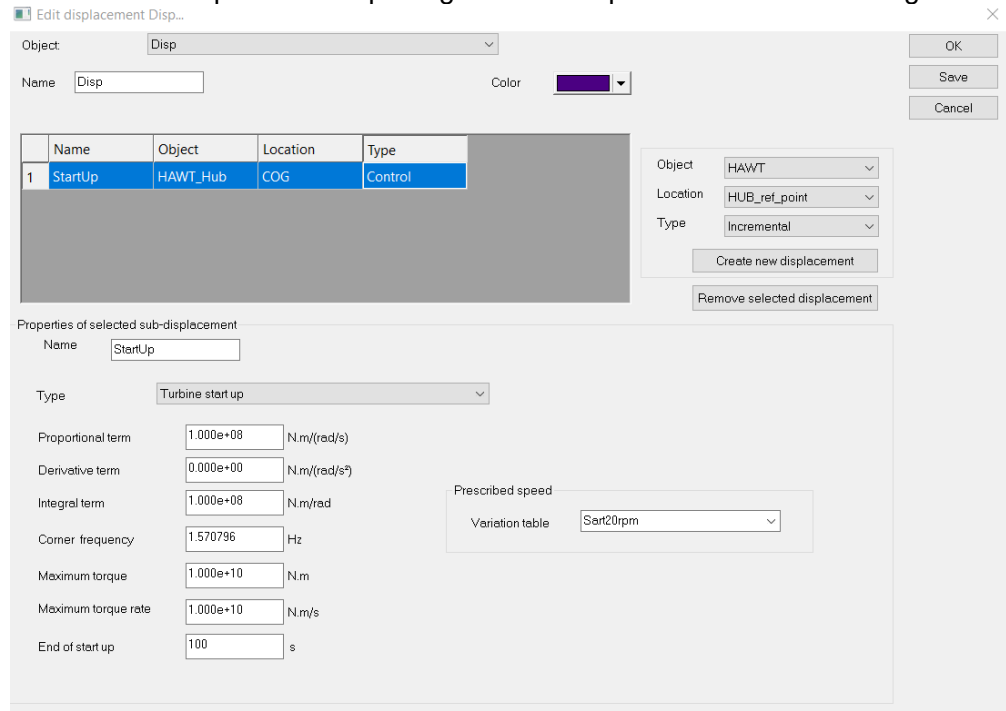

Figure 4-8 : Example of turbine “Start-up” definition
- o For a loading to be implemented in an EnvironmentSet, the variation table must only be defined a target speed and a transition time window as shown on Figure 4-8.
- 1) Define a Start-up sub-displacement (Figure 4-8);